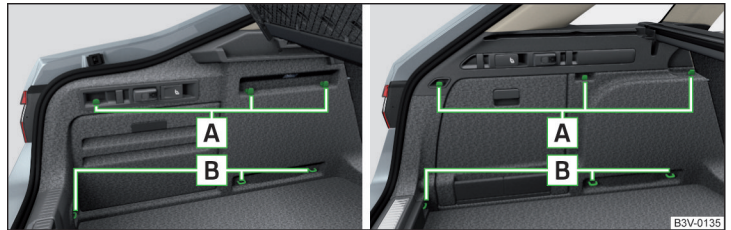

Fig. 127 Fastening elements: Variant 1 / Variant 2
**Overview of the fastening elements » Fig. 127**